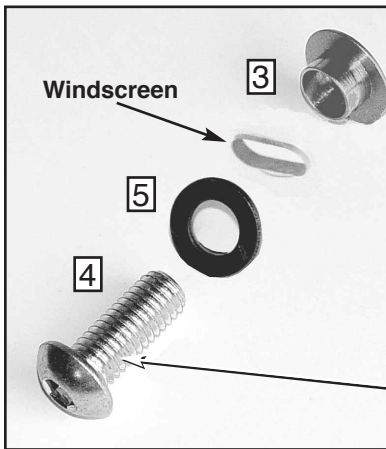

Figure 3
4. At point (b) assemble hardware as shown. **(5mm Hex Key) Figures 3 and 6**
- From inside of windscreen insert Top Hat Bushing (3) into hole with flat of Bushing against headlight housing.
- Place Flat Washer (5) to outside of Windshield.
- Loosely secure with Screw (4) supplied in Bag 987.